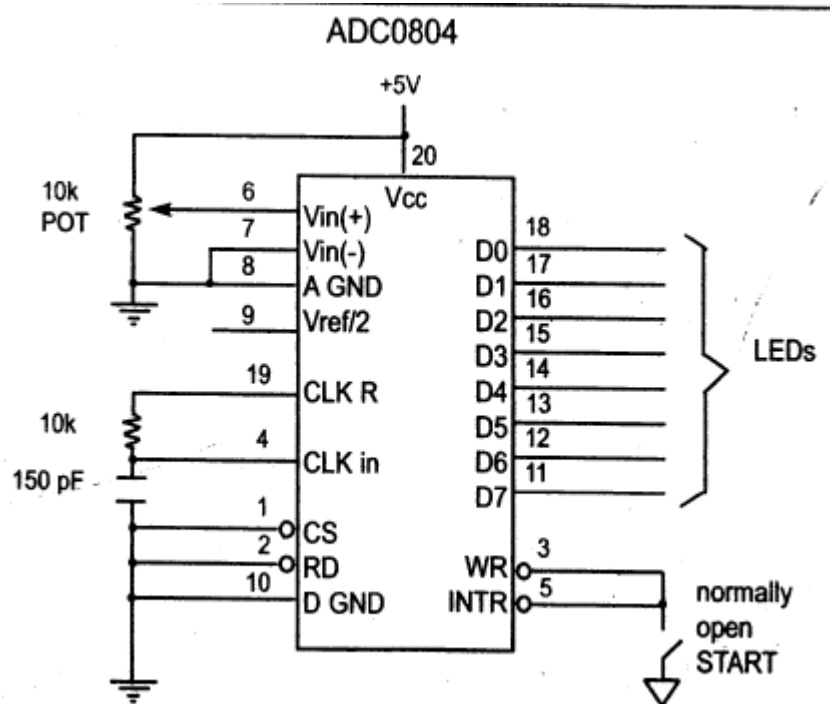

Figure 5.5.1 ADC0804 Chip (Testing ADC0804 in Free Running Mode)
- Figure 5.5.1 is the Pin out of ADC0804 in free running mode.